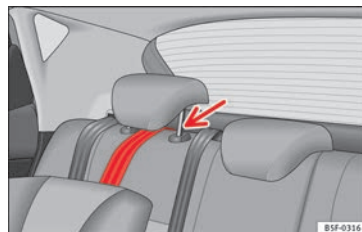

Fig. 33 Retainer strap: correct adjustment and fitting.
- Guide the strap under the rear seat head restraint » **Fig. 33** (lift the head restraint where necessary).